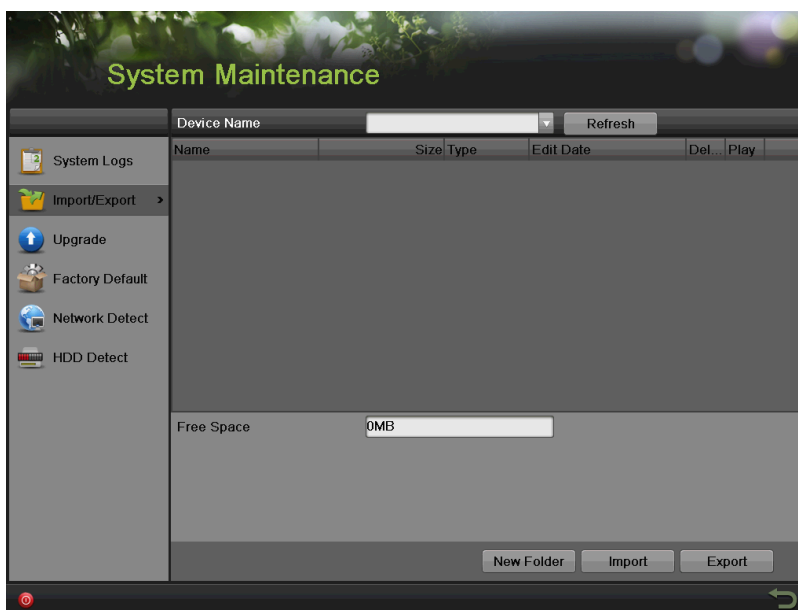

Figure 169 Import/Export Menu
1. Enter the Import/Export menu, shown in Figure 169 by going to Menu > Maintenance > Import/Export.